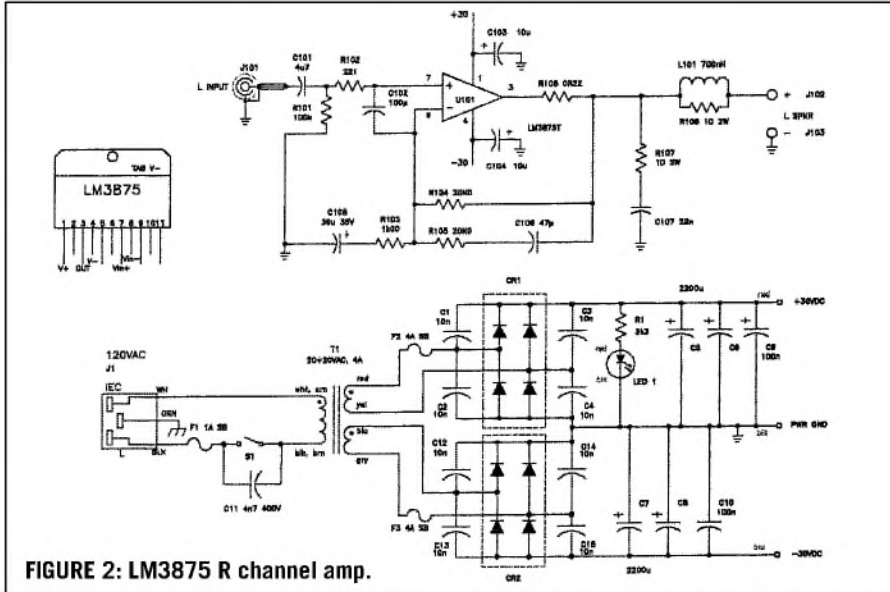
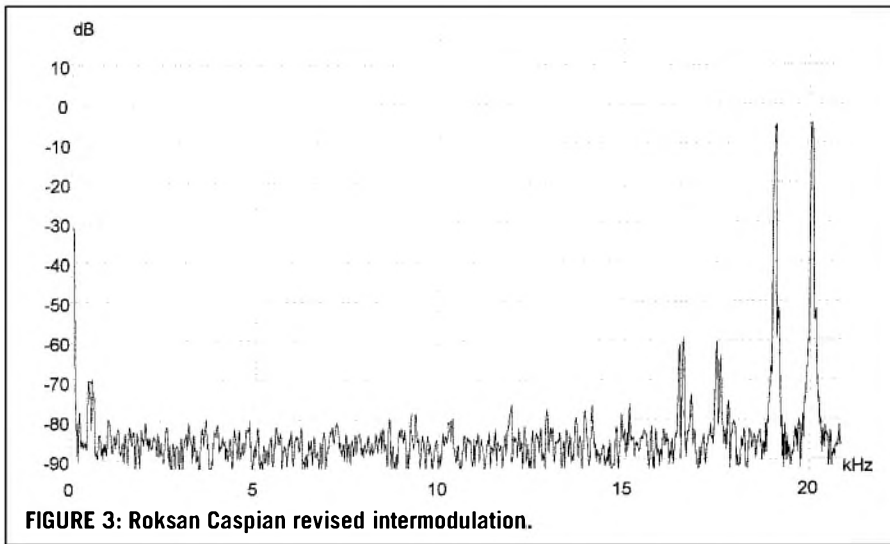
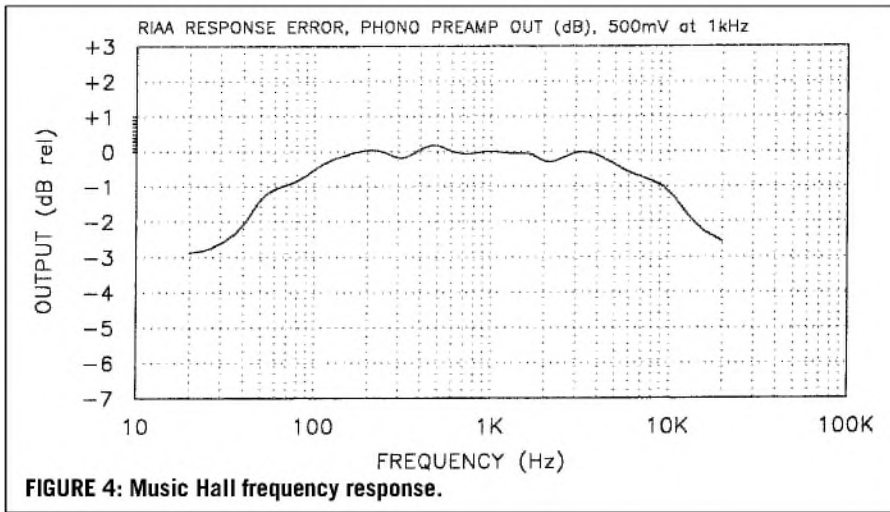

FIGURE 2: LM3875 R channel amp.
FIGURE 3: Roksan Caspian revised intermodulation.
FIGURE 4: Music Hall frequency response.
**K** In Fig. 2 of the article “A Hybrid Tube/MOSFET SE Amp” (May '01 aX), I believe the drain and source of Q4 are reversed. Also, the value of R14 may require some tweaking, as Vgs is not terribly consistent from unit to unit and varies with output current, as well.
**K** I found a few errors in my articles in Aug. '01 aX. In “A High-Quality Two-Channel Chip Amp” (pp. 12–14), I used the wrong component designations in how it works. Figure 1 shows the R channel, but the description is for the L channel (Fig. 2). I’m sure most readers will figure out that substituting 2 instead of 1 for the lead digit will correct it (C101 becomes C201, and so on).
I am including a revised Fig. 3 for my Roksan Caspian review, p. 59 (Fig. 3). The text changes made it into the final article, but not the revised Fig. 3.
Figure 1 in the review of the Music Hall MMF-2.1 is actually Fig. 2, and the Fig. 2 shown is actually Fig. 3, which was reprinted correctly as Fig. 3. The real Fig. 1 (Fig. 4) became lost somehow, since it was correct in the edited manuscript I reviewed.